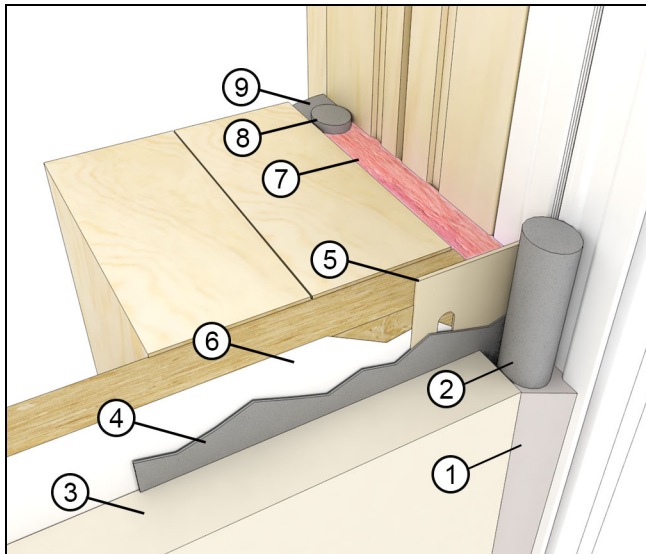

Figure 45
1. For ALL applications: Once the exterior finish such as siding or brick veneer is installed, apply bead of sealant between the finish and the frame exterior or casing along the sides. Apply additional beads approximately 1"- 2" (25-51) at the ends on top of the drip cap. Use a backer rod when necessary. See Figure 45 and Figure 46.